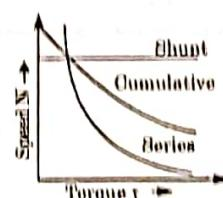

Fig. 3.3.1. Speed-torque characteristics of DC motor.
1. From the Fig. 3.3.1, it is found that the speed of a series motor is inversely proportional to the torque.